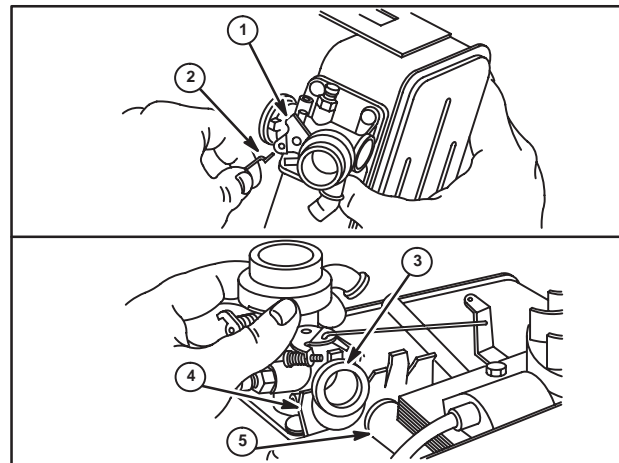

Fig. 16
- Slip carburetor over notch in cylinder shield (4) and away from intake manifold (5), and seal (3), Fig. 16. Rotate carburetor and tank assembly to disconnect governor link (2) from throttle lever (1).